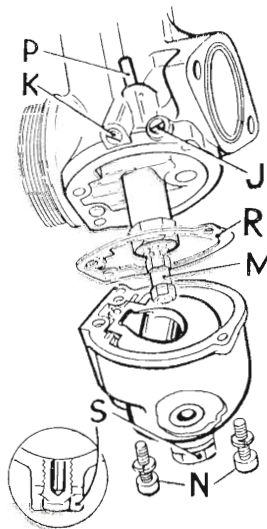

FIGURE 17.
An exploded view of the carburettor is shown in Fig. 17. Opening the twist grip throttle control raises the throttle slide, thus controlling the supply of air to the motor. The tapered needle controlling the supply of gas (petrol) is attached to the throttle slide so that a balanced mixture is always provided. The needle has grooves at its upper end and it is secured in the throttle slide by the spring and by the circlip which locates in one of these grooves.
Screwing in the pilot air screw (J) FIG. 17, restricts the air supply, thus giving a richer mixture and unscrewing it gives a lean mixture.